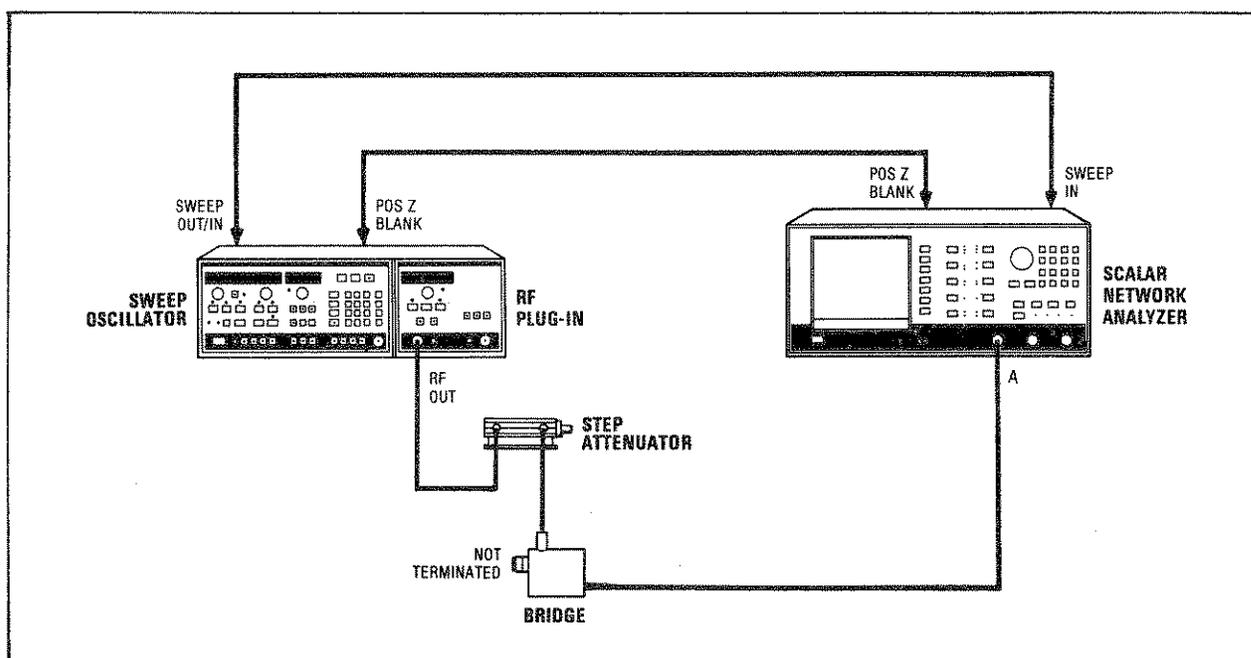

Figure 8-8. Preamplifier Assembly Adjustment Setup
2. Connect the equipment as shown in Figure 8-8. Allow the equipment to warm up for 30 minutes.